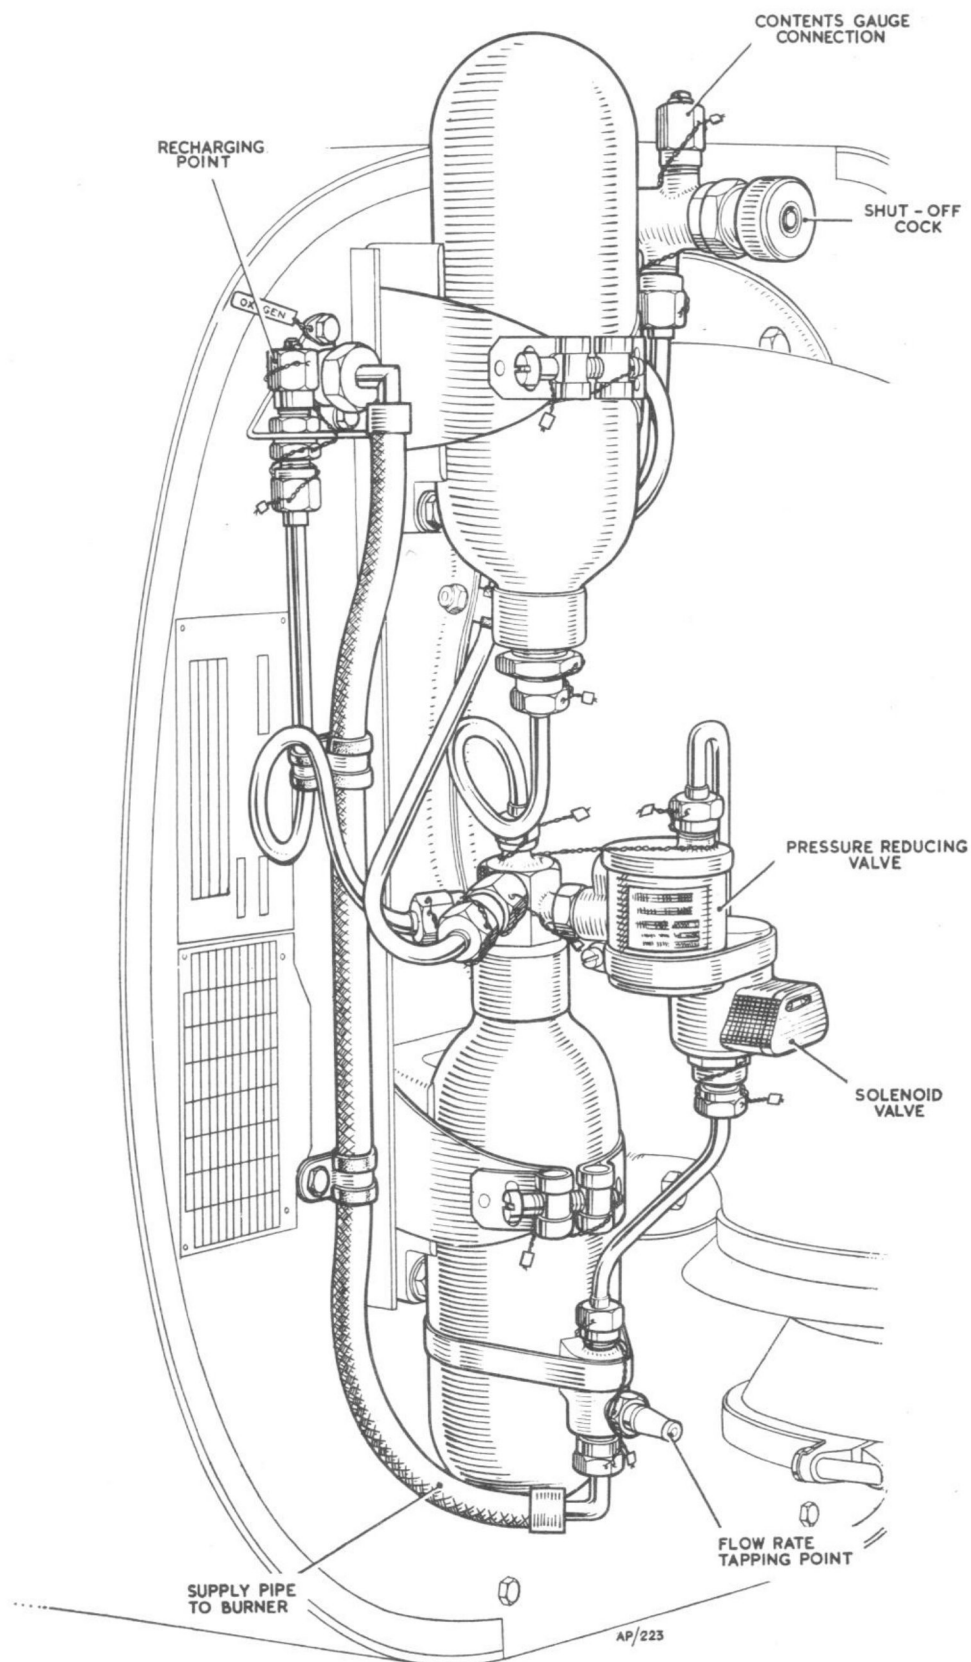

Fig. 9. Oxygen equipment
34. The equipment incorporates a contents gauge connection (fig.9) and for details of the correct method of recharging reference should be made to A.P.101B-1902-1A.